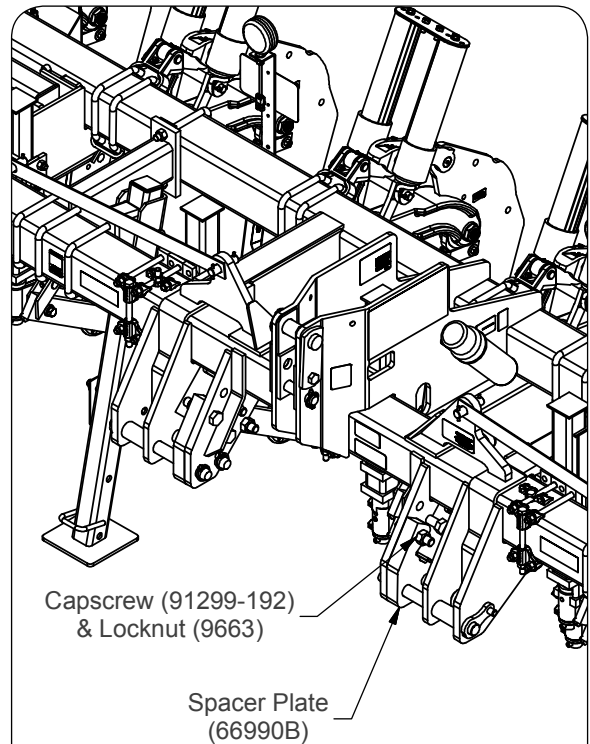

FIG. 2-5
1. Insert the plates (66990B) as shown in Fig. 2-5. Secure each plate with two 1"-8UNC x 4 1/2" capscrews (91299-192), one 1" SAE flat washers (9405-116) and two 1"-8UNC lock nuts (9663).